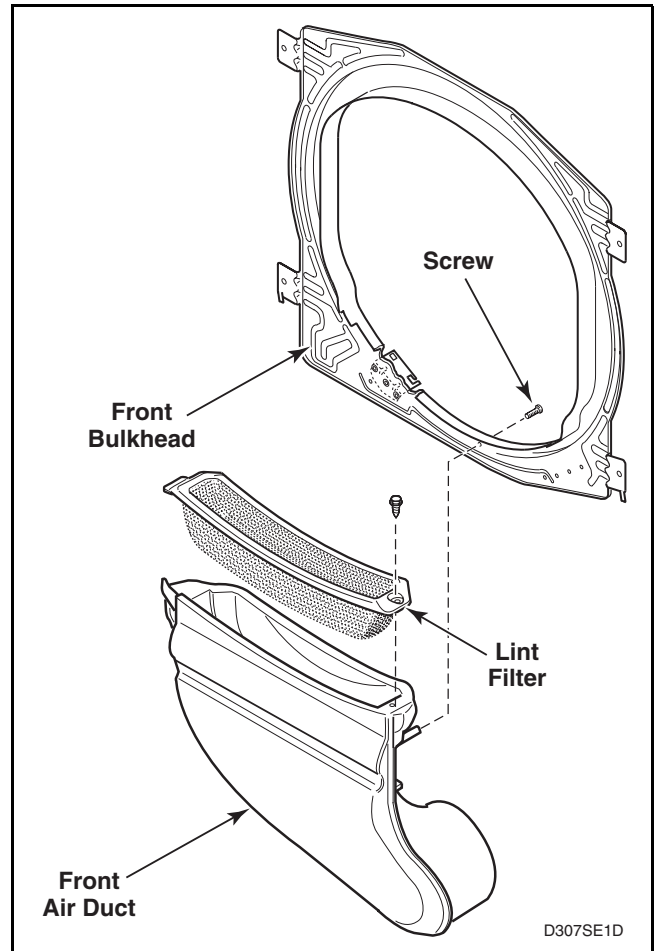
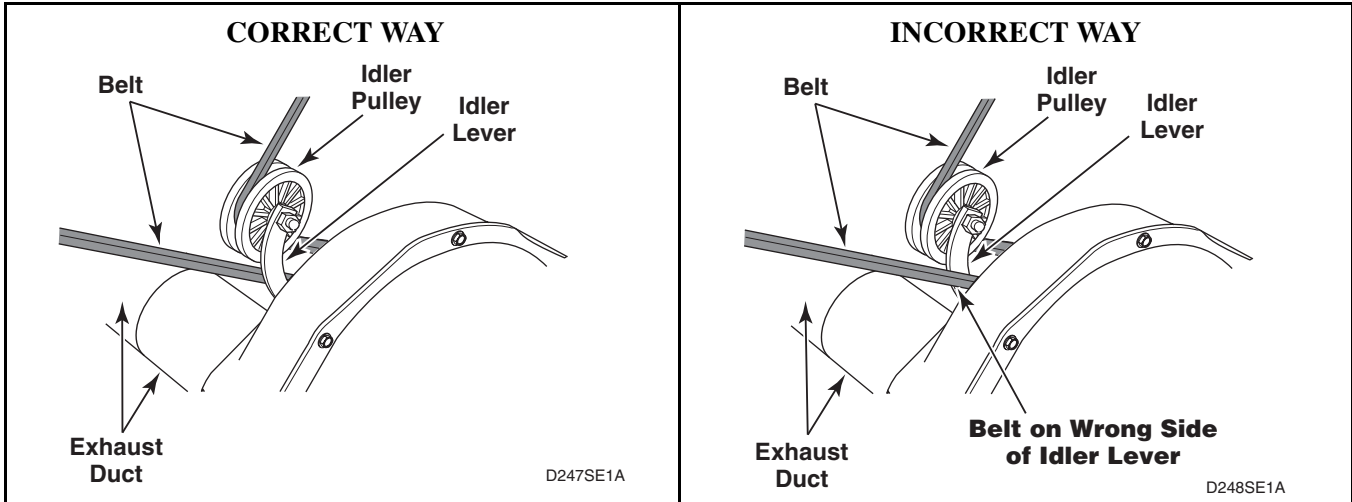

Figure 41
Figure 43
- e. Remove three screws holding the air duct to the front bulkhead inside cylinder. Refer to *Figure 41*.
- d. Remove screws holding air duct to front bulkhead (inside cylinder). Refer to *Figure 41*.
- g. Remove cylinder belt from idler and motor pulleys. Refer to *Figure 43*.
IMPORTANT: When reinstalling motor and exhaust assembly, be sure wire harness on right side is clipped to motor mounting bracket and is routed along dryer base (between motor mounting bracket and right side of cabinet). Refer to *Figure 41*. Tab on rear of motor mounting bracket must be slid into slot in dryer base. Be sure the belt has been installed on the correct side of the idler lever. Refer to *Figure 43*.
- Disengage belt from motor and idler pulley. Refer to *Figure 43*.